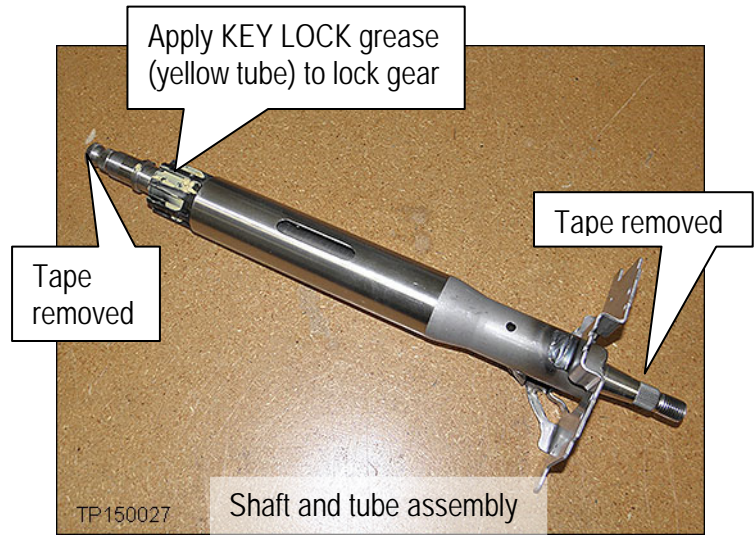
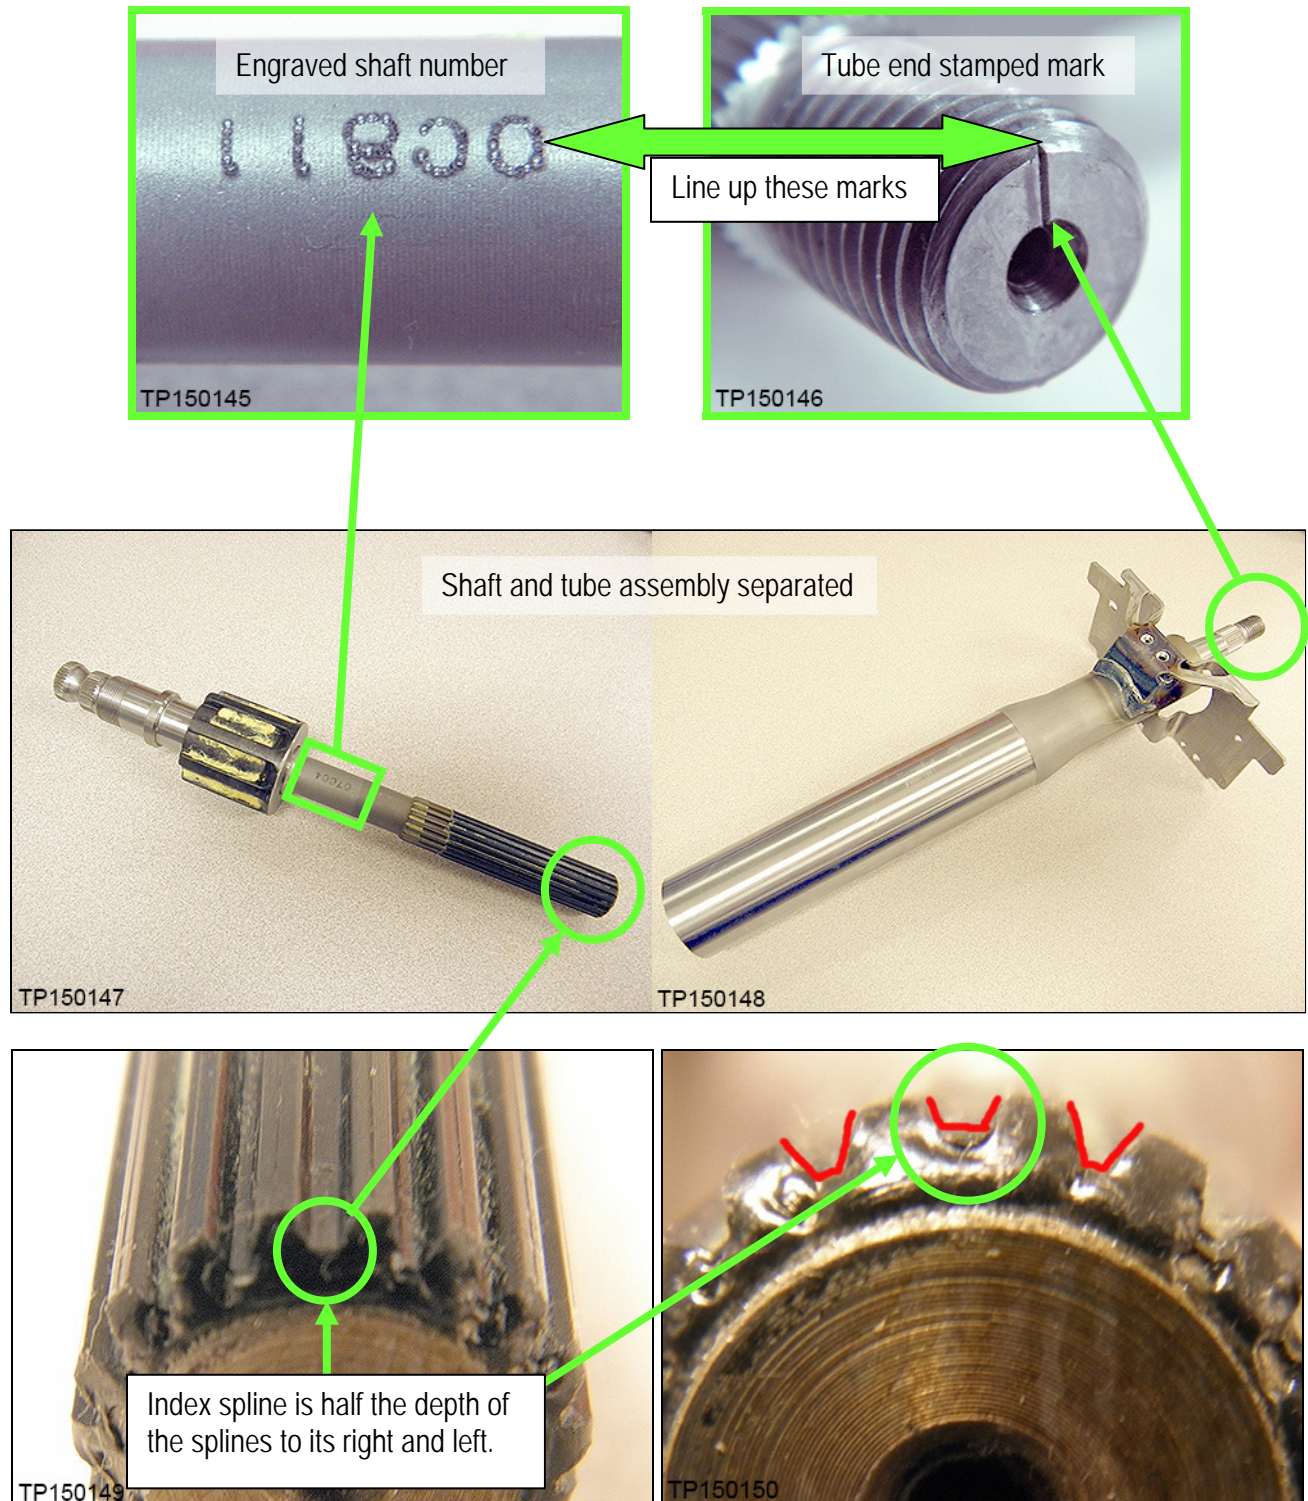

Figure 11
Figure 33
**IMPORTANT:** In the following steps insure that the sliding shaft portion of the new "shaft and tube" assembly (Figure 11) is not removed from the tube. If the shaft is separated, refer to the information and Figure 33 on page 15 to reassemble.
- A single indexed spline is present on the shaft and corresponding tube, and can be difficult to see (Figure 33).